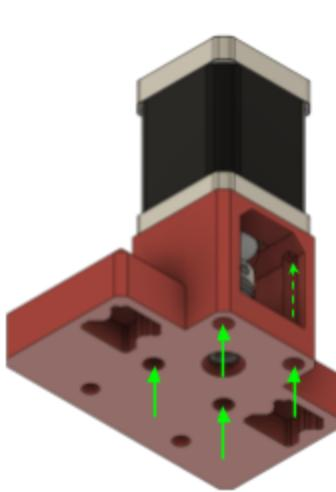
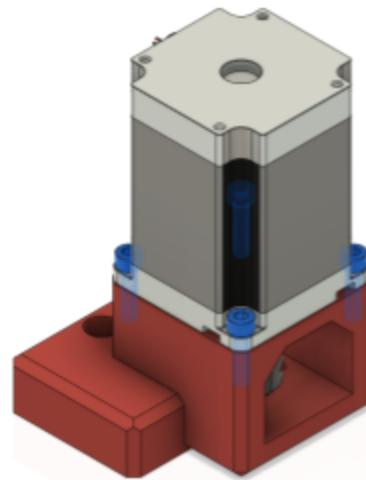

Figure 13.4 - NEMA 17
Figure 13.5 - NEMA 23
6. Insert motor mounting screws. For the NEMA 17 version these will be M3x10mm bolts inserted into the motor through the holes on the bottom of the printed part. These are marked in Figure 13.4. For the NEMA 23 version these will be M5x20mm bolts inserted through the motor into the 3d printed motor mount from above as shown in Figure 13.5